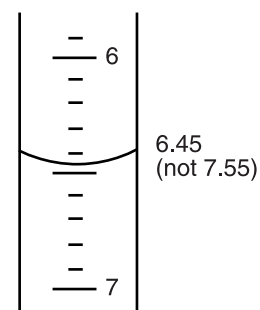

Figure 1.
6. Record the precise level of the solution in the buret in the Part 1 Data Table. This is the initial volume of the MnO_4^- solution. (See Figure 1 for reading buret level.)